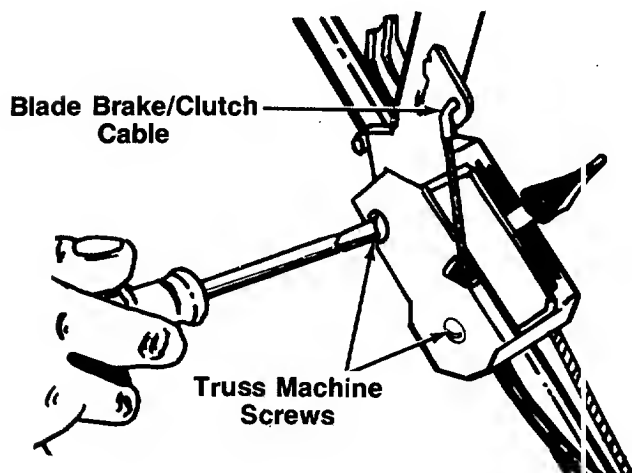

FIGURE 27.
5. Remove two truss machine screws on the inside of the control housing as shown in figure 27.